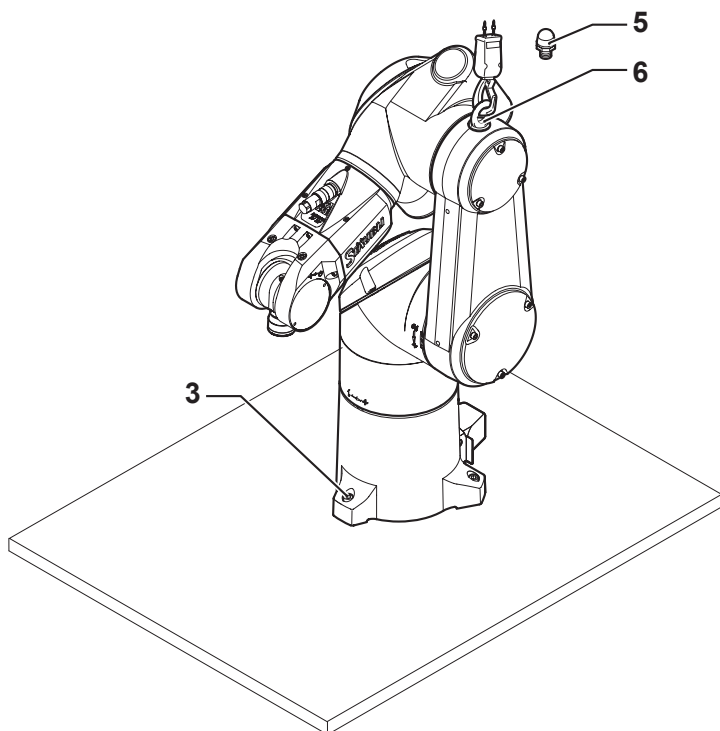

Figure 3.3
3.4.1. INSTALLATION OF ARM ON FLOOR (figure 3.3)
- Attach the arm with 3 class 12.9 M10 hex. socket head screws (3), tightened to 77 Nm ± 5 Nm.
- Unscrew the hoisting ring (6) and install the plug (5).